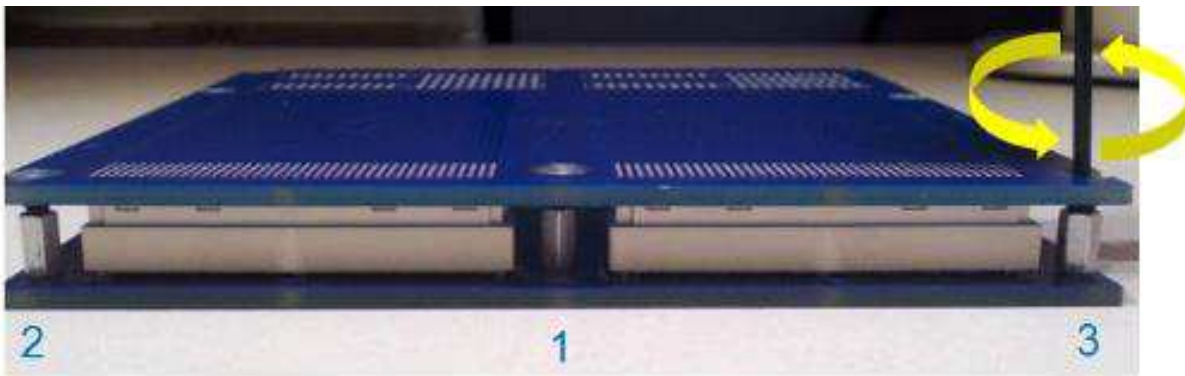

Figure 17
3.10. PC Board Assembly Procedure (Figure 17)